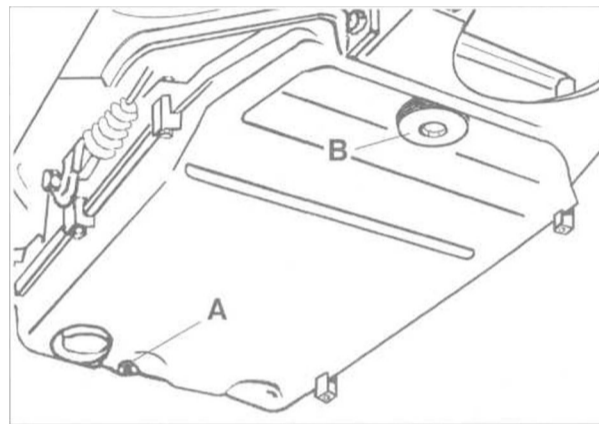

Fig. 28. Drain plug (A) and fill plug (B) on A5S 310Z transmission.
1. Remove drain plug and drain fluid into container. See Fig. 28.
Make sure the O-ring is attached to top of strainer when removing. See Fig. 28.